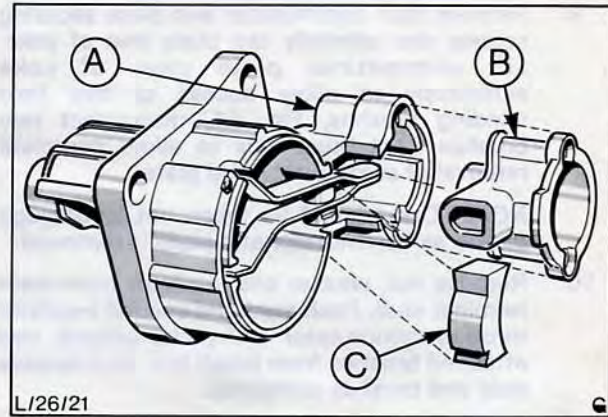

Fig. 38. Positions of seals
6. Remove rubber block and neoprene seal/sleeve from drive-end housing, Fig. 38.